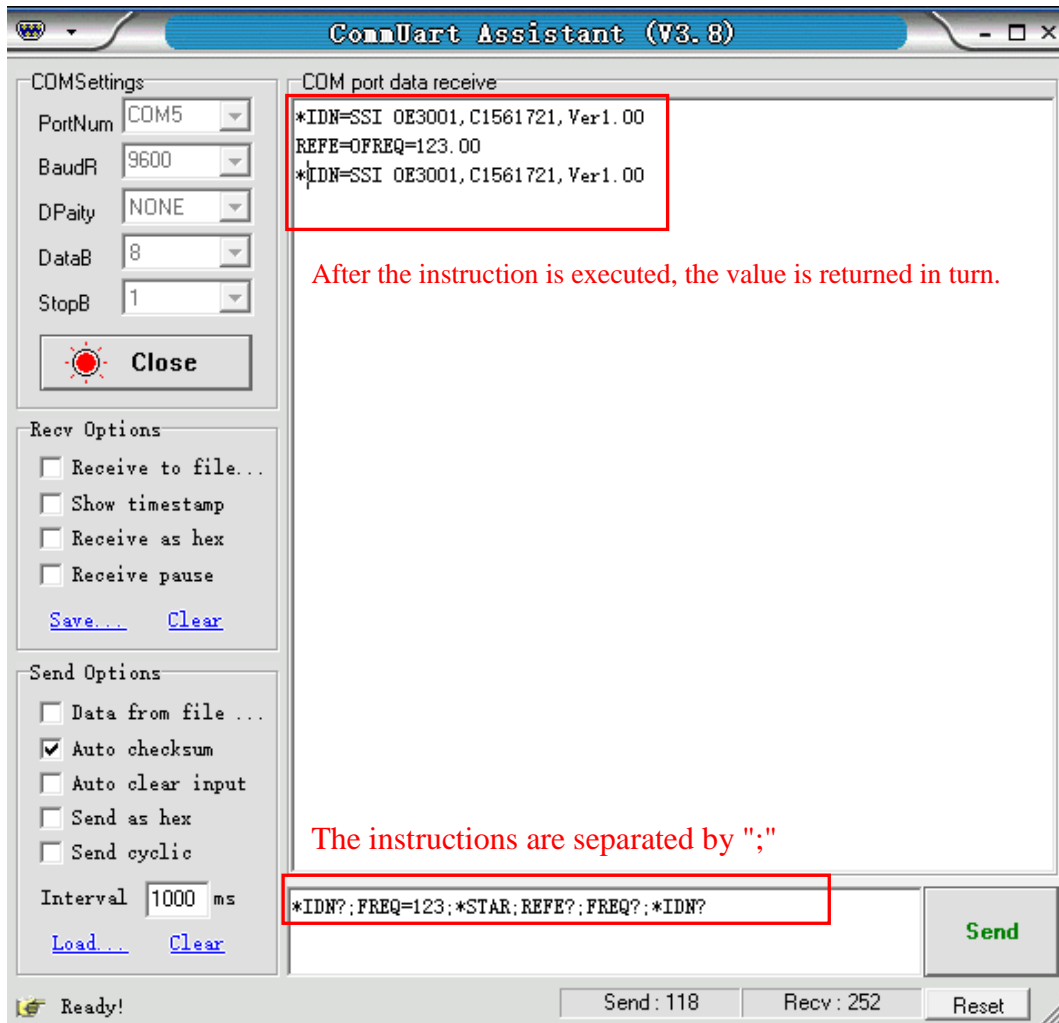

Fig19. The execution of multiple instructions
- b) Multiple commands are separated by semicolons “;”, such as “\*IDN?;FREQ=123;\*STAR;REFE?;FREQ?;\*IDN?” as Fig.19.